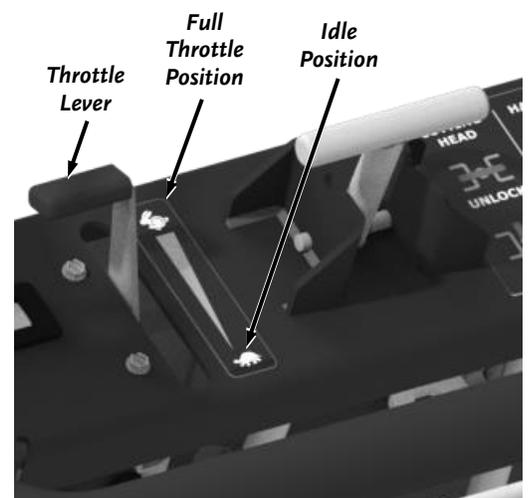

Figure 10
3. Set the Throttle Lever to the Idle Position, designated by the “Turtle” icon (**Figure 10**).
1. Move the Throttle Control Lever to the Idle position, designated by the “Turtle” icon (**Figure 10**).